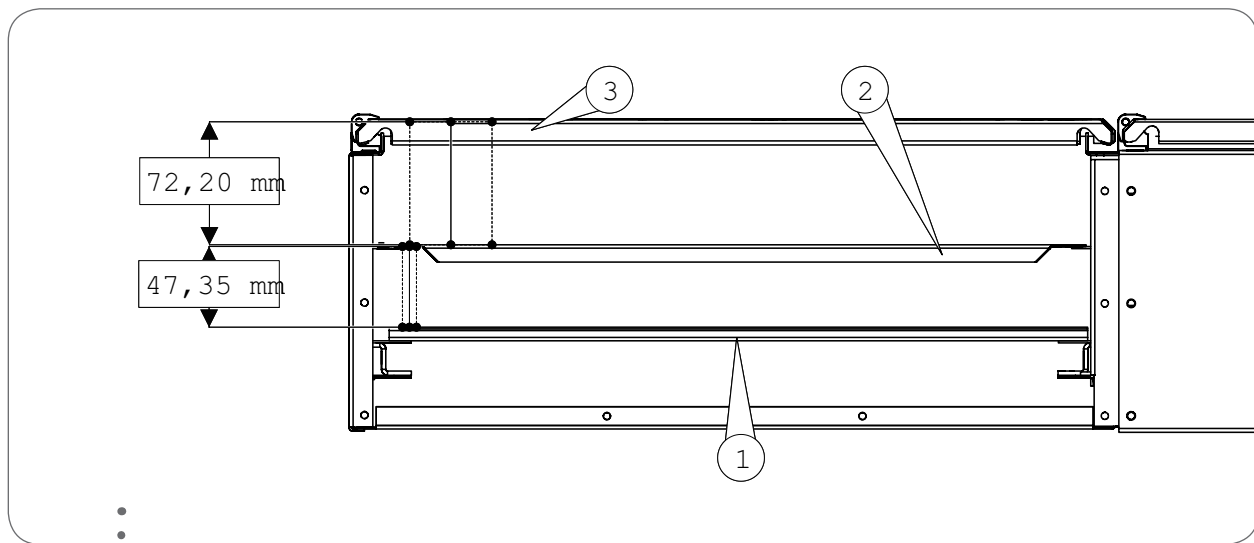

Fig 8.6.3. Sectional view of intermediate cover structure.
The installation depth of the intermediate cover system is designed suitable for modular components with DIN rail mounting. The installation depth for modular components is approx. 47.35 mm from DIN rail (1) surface to the rear face of intermediate cover (2). The distance between the intermediate cover surface and the front surface of the door (3) is approx. 72.4 mm as shown in Fig. 8.6.3